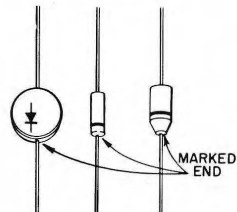

FIGURE 6.
- CR-4 diode. It is extremely important that you install all diodes so the lead from the marked end is connected to the correct terminal. See Figure 6 to help you identify the marked end. Connect the lead from the marked end to terminal 2 of TS-1. Connect the other lead to terminal 1 of TS-1.